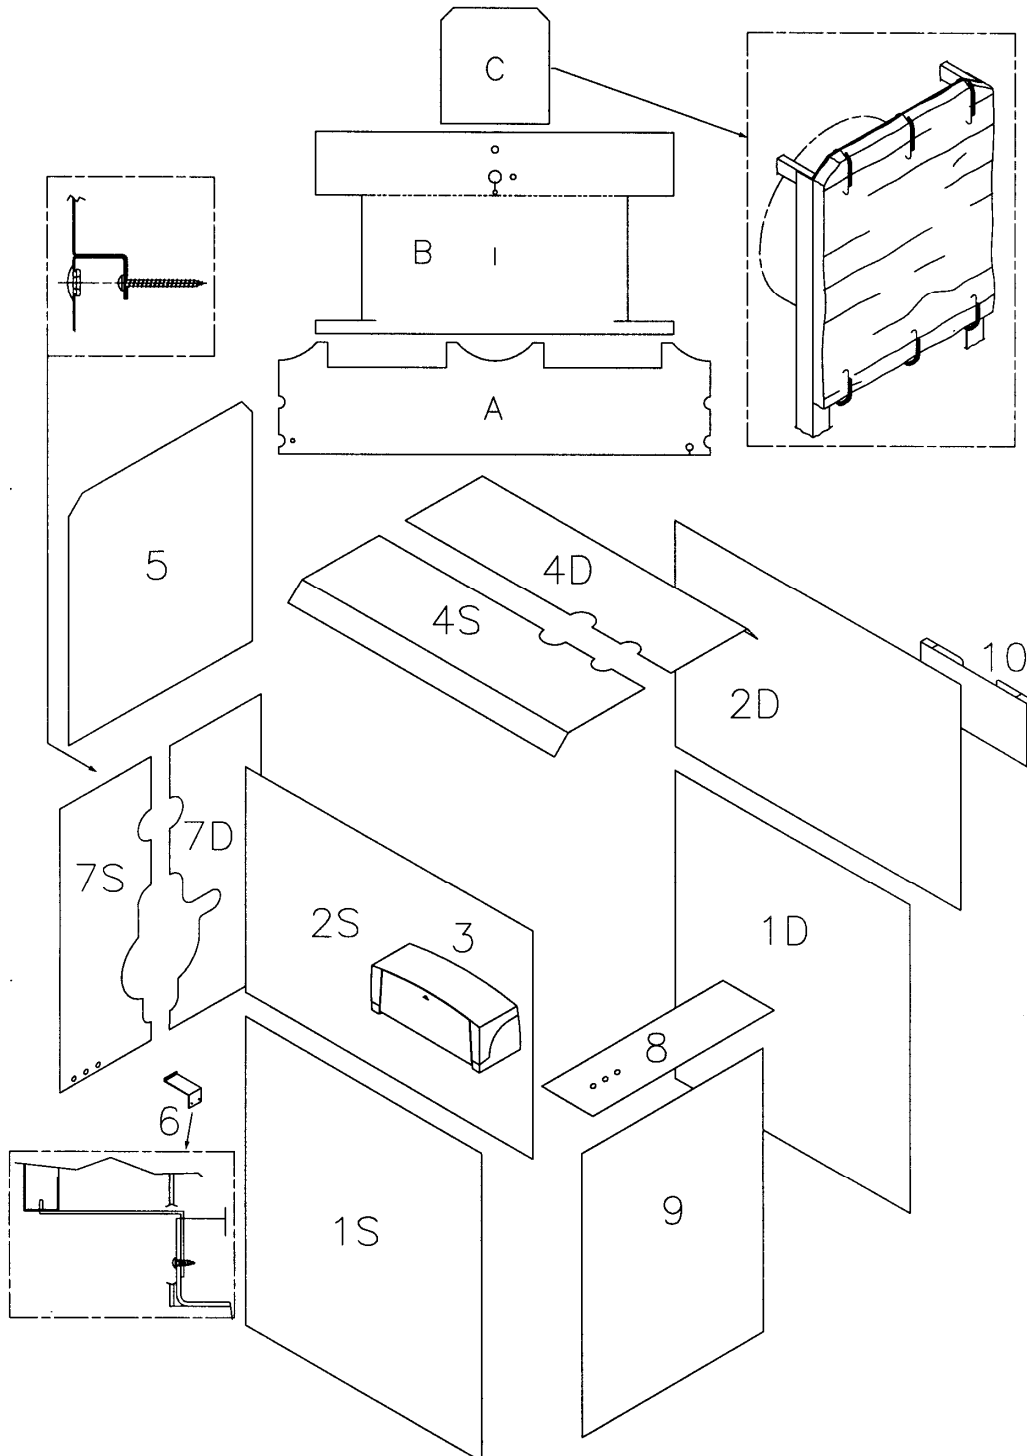

Fig. 5
5.3 BOILER CASING mod. 160 - 270 (Fig. 5)
- Mount the panel (5); attach the support bracket (6) to the corner of the frame base, position the panel (7D) and then the panel (7S) with fairlead attached to its side panels. Screw on tightly and plug the passage holes with the appropriate caps. Attach the front/central panel with fairlead (8) and the front/lower panel (9). Finally, screw the document holder (10) on to the opposite side of the control panel.